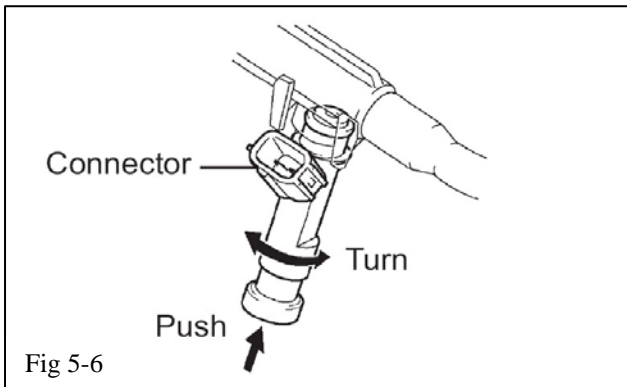

Fig 5-6
- (d) Install a light coat of spindle oil or gasoline to the O-ring on the top of each new injector. While turning the fuel injector left or right, install it onto the fuel delivery pipe positioning the connector facing outward (Fig 5-6). Repeat for all six new injectors.